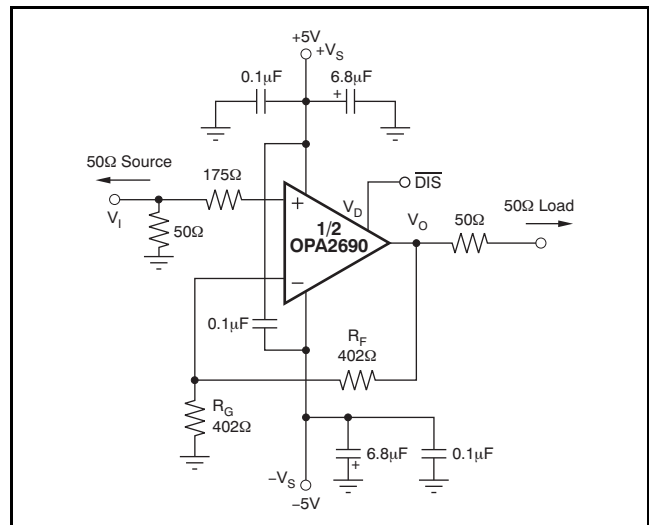
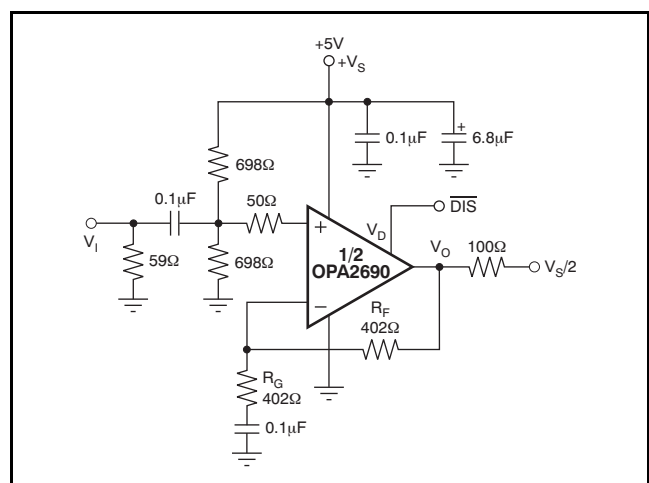
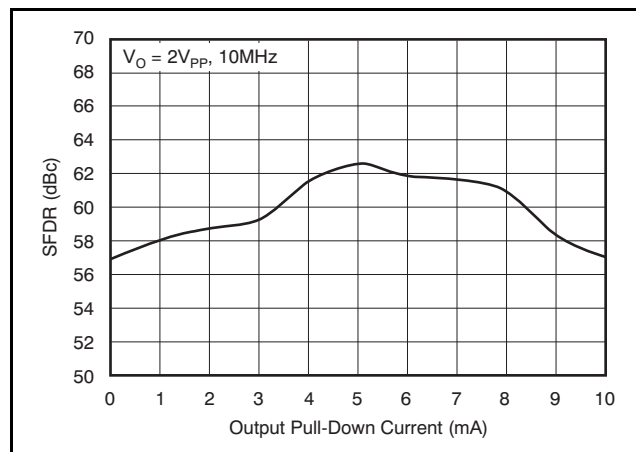
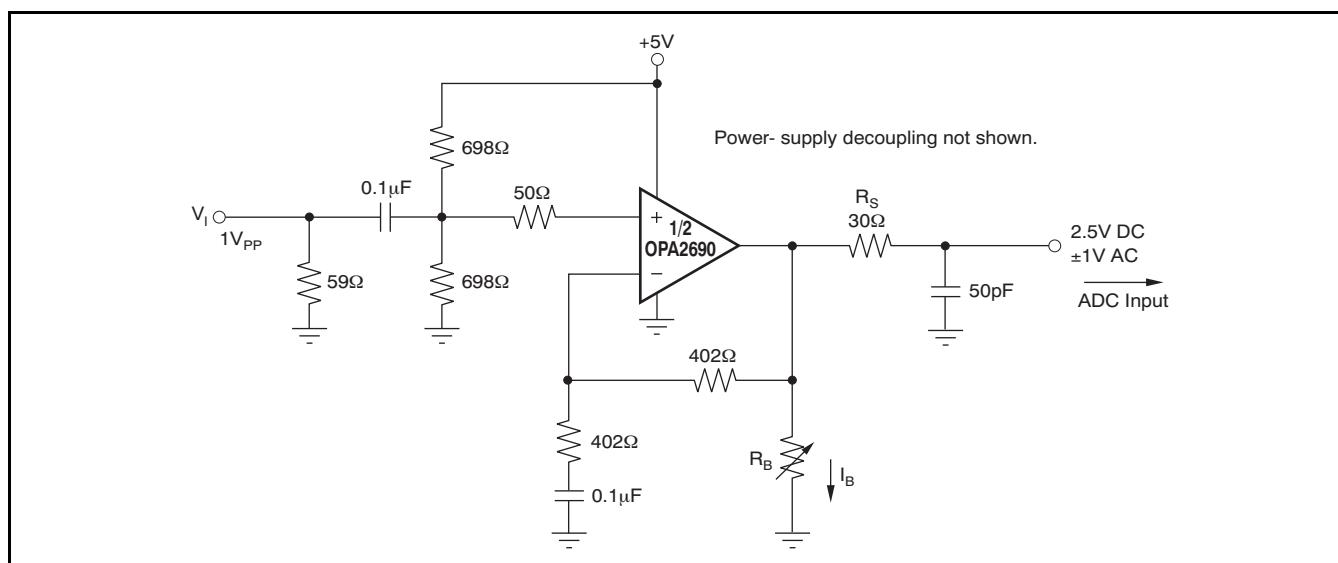

Figure 36. DC-Coupled, G = +2, Bipolar-Supply Specification and Test Circuit
Figure 37. AC-Coupled, G = +2, Single-Supply Specification and Test Circuit
Figure 38. SFDR vs  $I_B$
Figure 39. SFDR versus  $I_B$  Test Circuit
At  $T_A = +25^\circ C$ ,  $G = +2$ ,  $R_F = 402\Omega$ , and  $R_L = 100\Omega$  (see Figure 36 for ac performance only), unless otherwise noted.
At  $T_A = +25^\circ\text{C}$ ,  $G = +2$ ,  $R_F = 402\Omega$ , and  $R_L = 100\Omega$  (see Figure 37 for ac performance only), unless otherwise noted.
Figure 36 shows the dc-coupled, gain of +2, dual power supply circuit configuration used as the basis of the  $\pm 5$ V *Electrical Characteristics* and *Typical Characteristics*. This is for one channel; the other channel is connected similarly. For test purposes, the input impedance is set to 50 $\Omega$  with a resistor to ground and the output impedance is set to 50 $\Omega$  with a series output resistor. Voltage swings reported in the *Electrical Characteristics* are taken directly at the input and output pins, while output powers (dBm) are at the matched 50 $\Omega$  load. For the circuit of Figure 36, the total effective load will be 100 $\Omega$  || 804 $\Omega$ . The disable control line (SO-14 package only) is typically left open for normal amplifier operation. Two optional components are included in Figure 36. An additional resistor (175 $\Omega$ ) is included in series with the noninverting input. Combined with the 25 $\Omega$  dc source resistance looking back towards the signal generator, this gives an input bias current cancelling resistance that matches the 200 $\Omega$  source resistance seen at the inverting input (see the *DC Accuracy and Offset Control* section). In addition to the usual power-supply decoupling capacitors to ground, a 0.1 $\mu$ F capacitor is included between the two power-supply pins. In practical printed circuit board (PCB) layouts, this optional-added capacitor will typically improve the 2nd-harmonic distortion performance by 3dB to 6dB.
Figure 37 shows the ac-coupled, gain of +2, single-supply circuit configuration used as the basis of the +5V *Electrical Characteristics* and *Typical Characteristics*. Though not a rail-to-rail design, the OPA2690 requires minimal input and output voltage headroom compared to other very wideband voltage-feedback op amps. It will deliver a 3VPP
output swing on a single +5V supply with > 150MHz bandwidth. The key requirement of broadband single-supply operation is to maintain input and output signal swings within the usable voltage ranges at both the input and the output. The circuit of Figure 37 establishes an input midpoint bias using a simple resistive divider from the +5V supply (two 698 $\Omega$  resistors). Separate bias networks would be required at each input. The input signal is then ac-coupled into the midpoint voltage bias. The input voltage can swing to within 1.5V of either supply pin, giving a 2VPP input signal range centered between the supply pins. The input impedance matching resistor (59 $\Omega$ ) used for testing is adjusted to give a 50 $\Omega$  input load when the parallel combination of the biasing divider network is included.
Most modern, high-performance ADCs (such as the TI ADS8xx and ADS9xx series) operate on a single +5V (or lower) power supply. It has been a considerable challenge for single-supply op amps to deliver a low distortion input signal at the ADC input for signal frequencies exceeding 5MHz. The high slew rate, exceptional output swing, and high linearity of the OPA2690 make it an ideal single-supply ADC driver. The circuit on the front page shows one possible interface particularly suited to differential I/O, ac-coupled requirements. Figure 39 shows the test circuit of Figure 37 modified for a capacitive (ADC) load and with an optional output pull-down resistor ( $R_B$ ). This circuit would be suitable to dual-channel ADC driving with a single-ended I/O.
The OPA2690 in the circuit of Figure 39 provides > 200MHz bandwidth for a 2VPP output swing. Minimal 3rd-harmonic distortion or two-tone, 3rd-order intermodulation distortion will be observed due to the very low crossover distortion in the OPA2690 output stage. The limit of output Spurious-Free Dynamic Range (SFDR) will be set by the 2nd-harmonic distortion. Without  $R_B$ , the circuit of Figure 39 measured at 10MHz shows an SFDR of 57dBc. This can be improved by pulling additional dc bias current ( $I_B$ ) out of the output stage through the optional  $R_B$  resistor to ground (the output midpoint is at 2.5V for Figure 39). Adjusting  $I_B$  gives the improvement in SFDR shown in Figure 38. SFDR improvement is achieved for  $I_B$  values up to 5mA, with worse performance for higher values. Using the dual OPA2690 in an I/Q receiver channel will give matched ac performance through high frequencies.
A good rule of thumb is to target the parallel combination of  $R_F$  and  $R_G$  (see Figure 36) to be less than approximately 300 $\Omega$ . The combined impedance  $R_F \parallel R_G$  interacts with the inverting input capacitance, placing an additional pole in the feedback network and thus, a zero in the forward response. Assuming a 2pF total parasitic on the inverting node, holding  $R_F \parallel R_G < 300\Omega$  will keep this pole above 250MHz. By itself, this constraint implies that feedback resistor  $R_F$  can increase to several k $\Omega$  at high gains. This is acceptable as long as the pole formed by  $R_F$  and any parasitic capacitance appearing in parallel is kept out of the frequency range of interest.
Voltage-feedback op amps exhibit decreasing closed-loop bandwidth as the signal gain is increased. In theory, this relationship is described by the Gain Bandwidth Product (GBP) shown in the Electrical Characteristics. Ideally, dividing GBP by the noninverting signal gain (also called the Noise Gain, or NG) will predict the closed-loop bandwidth. In practice, this only holds true when the phase margin approaches 90°, as it does in high gain configurations. At low gains (increased feedback factors), most amplifiers will exhibit a more complex response with lower phase margin. The OPA2690 is compensated to give a slightly peaked response in a noninverting gain of 2 (see Figure 36). This results in a typical gain of +2 bandwidth of 220MHz, far exceeding that predicted by dividing the 300MHz GBP by 2. Increasing the gain will cause the phase margin to approach 90° and the bandwidth to more closely approach the predicted value of (GBP/NG). At a gain of +10, the 30MHz bandwidth shown in the Electrical Characteristics agrees with that predicted using the simple formula and the typical GBP of 300MHz.
The frequency response in a gain of +2 may be modified to achieve exceptional flatness simply by increasing the noise gain to 2.5. One way to do this, without affecting the +2 signal gain, is to add an 804 $\Omega$  resistor across the two inputs in the circuit of Figure 36. A similar technique may be used to reduce peaking in unity-gain (voltage follower) applications. For example, by using a 402 $\Omega$  feedback resistor along with a 402 $\Omega$  resistor across the two op amp inputs, the voltage follower response will be similar to the gain of +2 response of Figure 37. Reducing the value of the resistor across the op amp inputs will further limit the frequency response due to increased noise gain.
Since the OPA2690 is a general-purpose, wideband voltage-feedback op amp, all of the familiar op amp application circuits are available to the designer. Inverting operation is one of the more common requirements and offers several performance benefits. Figure 47 shows a typical inverting configuration where the I/O impedances and signal gain from Figure 36 are retained in an inverting circuit configuration.
The second major consideration, touched on in the previous paragraph, is that the signal source impedance becomes part of the noise gain equation and influences the bandwidth. For the example in Figure 47, the  $R_M$  value combines in parallel with the external  $50\Omega$  source impedance, yielding an effective driving impedance of  $50\Omega \parallel 67\Omega = 28.6\Omega$ . This impedance is added in series with  $R_G$  for calculating the noise gain (NG). The resultant NG is 2.8 for Figure 47, as opposed to only 2 if  $R_M$  could be eliminated as discussed above. The bandwidth will therefore be slightly lower for the gain of  $-2$  circuit of Figure 47 than for the gain of  $+2$  circuit of Figure 36.